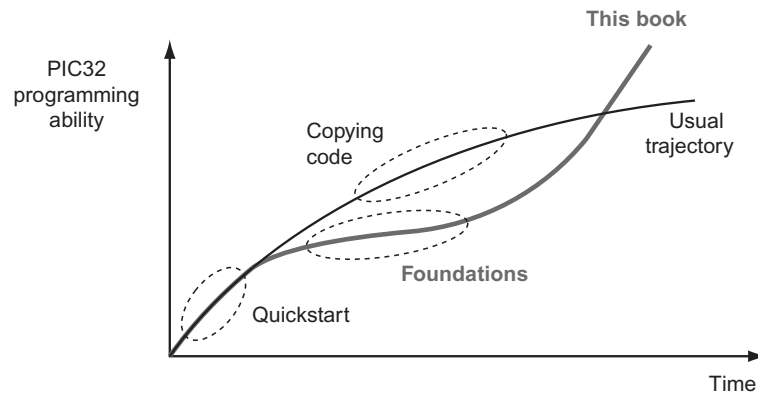

Figure 0.1
- *Sample code vs. writing it yourself.* The usual way to learn to program PIC32s is to take some working sample code and try to modify it to do something else. This is natural, except that if your modified code fails, you are often left with no idea what to do. In this book we provide plenty of sample code, but we also focus on the fundamentals of programming the PIC32 so that you learn to write code from scratch as well as strategies to debug if things go wrong (Figure 0.1).